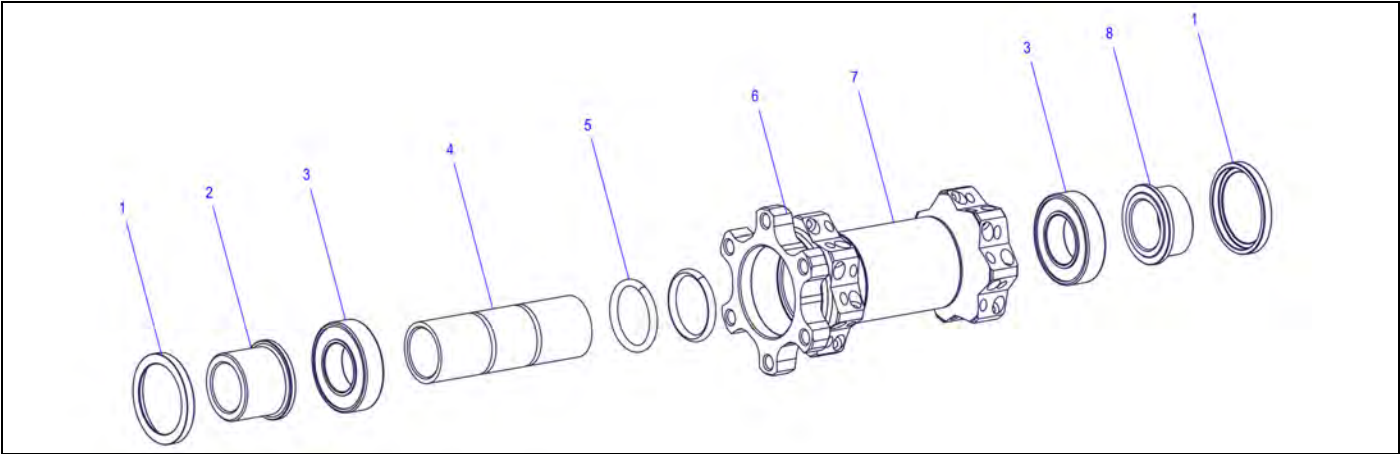

figure 3-1: Overview: front wheel with pressed on adapters
1. Plug the mounting pin of the tool set into one of the adapters (fig.3.1/2 or 8).
3. Remove the adapter (fig.3.1/2 or 8) and the cover (fig.3.1/1).
1. Push the spacer (fig.3.1/4) beside and place a spin drift on the edge of the ball bearing (fig.3.1/3).
5. Drive out the bearing (fig.3.1/3) on the disc-side.
1. Grease the bearing seats and the inner surface of the hub shell (fig.3.1/6).
2. Put a new bearing (fig.3.1/3) with the colored side outwards onto the bearing seat on the disc-side.
8. Slide the spacer (fig.3.1/4) with the o-rings (fig.3.1/5) into the hub.
9. Put a new bearing (fig.3.1/3) with the colored side outwards onto the bearing seat.
13. Drive in the bearing (fig.3.1/3) using a nylon hammer.
14. Grease both bearings (fig.3.1/3).
1. Put the left adapter (fig.3.1/2) and the cover (fig.3.1/1) onto the hub.
2. Put the small diameter of the mounting bushing of the toolset onto the left adapter (fig.3.1/2).
4. Drive the cover (fig.3.1/1) onto the hub.
1. Put the right adapter (fig.3.1/8) and the cover (fig.3.1/1) onto the hub.
2. Put the big diameter of the mounting bushing of the toolset onto the right adapter (fig.3.1/8).